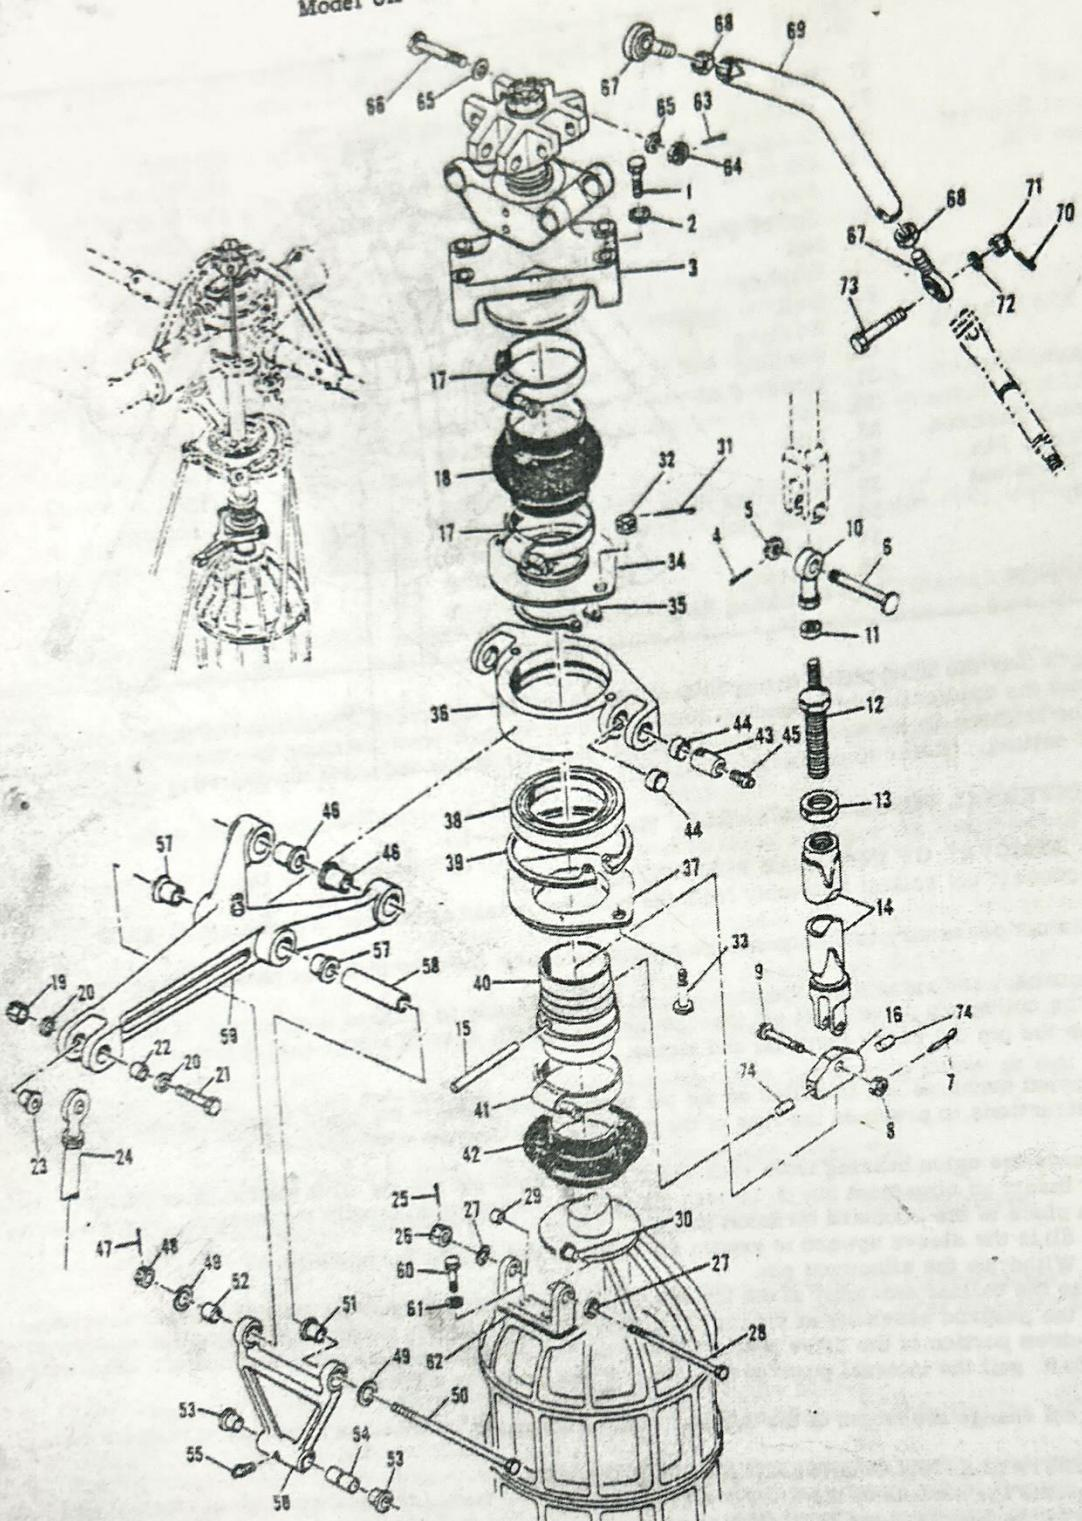
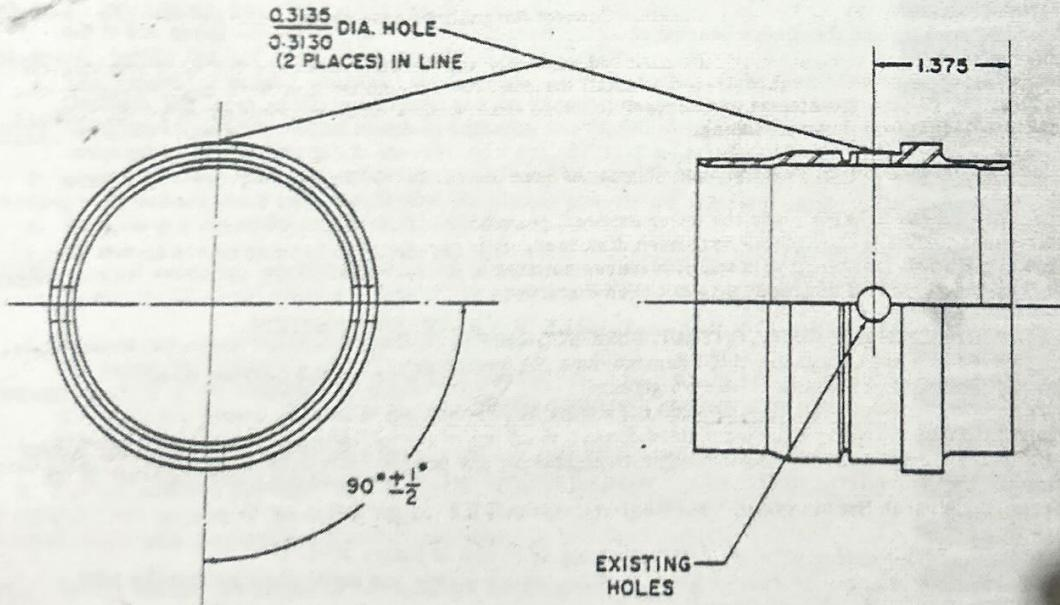

Figure 31-1-5. Upper Collective Controls Installation
Figure 31-1-5A. Repair of Collective Pitch Bearing Sleeve
INDEX FOR FIGURE 31-1-5
31-40-1. COLLECTIVE CONTROL YOKE ASSEMBLY. (See figure 31-1-5.)
- h. Install seals in conjunction with the collective ring as shown in figure 31-1-5.
31-41-10. REMOVAL OF COLLECTIVE PITCH BEARING SLEEVE. (See figure 31-1-5.) Remove the collective pitch bearing sleeve as follows.
31-41-11. INSTALLATION OF COLLECTIVE PITCH BEARING SLEEVE. (See figure 31-1-5.) The collective pitch bearing sleeve and associated assemblies are installed as outlined in paragraph 31-40-11.
31-41-50. REPAIR OF COLLECTIVE PITCH BEARING SLEEVE. (See figure 31-1-5A.) Collective pitch bearing sleeves removed from service because of enlarged holes for the terminal pin (15, figure 31-1-5) may be repaired as follows.